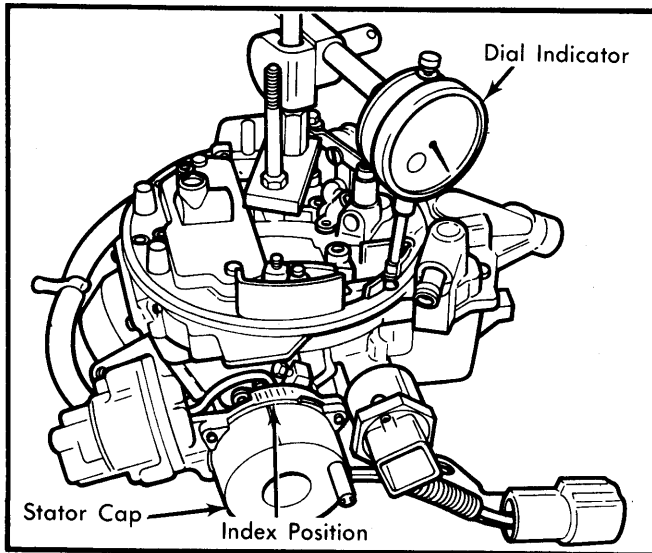

Fig. 6 "CER 75°F (24°C) Run" Adjustment
2) Install stator cap and rotate to index position. Dial indicator should read "CER 75°F (24°C) Run" specification. See Fig. 6. Replace choke control rod and CVR swivel assembly as described under OVERHAUL in this article. To adjust, turn CER adjustment screw until dial indicator reading is within specifications.
Alternate Procedure – 1) Using a dial indicator, set the "CER 75°F (24°C) Run" setting to specification. See Fig. 6. Do not remove dial indicator or reset it to zero. Hold throttle slightly open to allow free linkage movement.